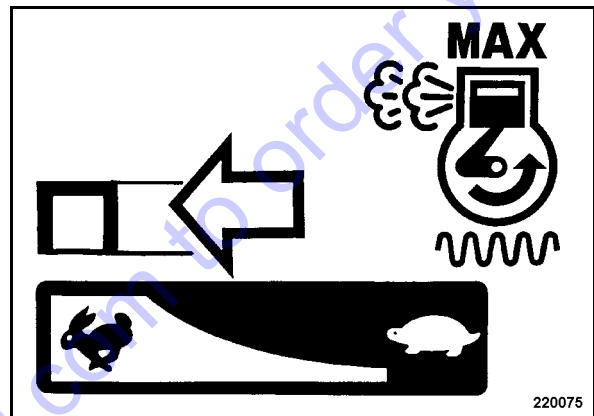

Fig. 20
- Shift the throttle lever (Fig. 20) in direction of arrow to full load position. The vibratory plate works with highest frequency.